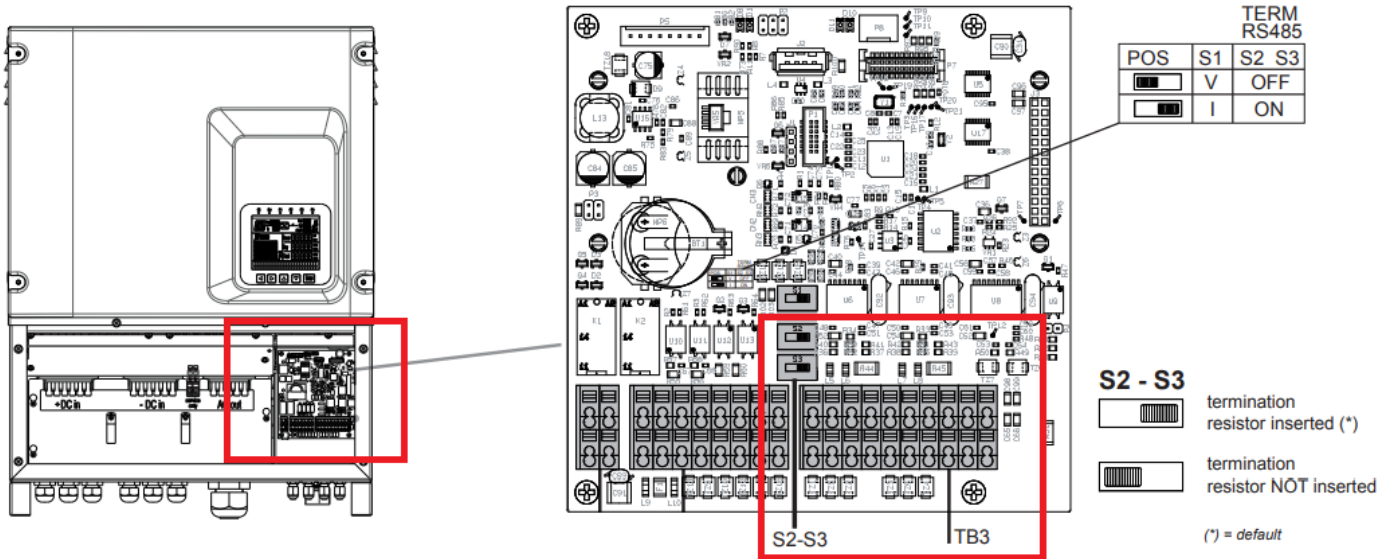

Figure G1 – Rishabh (Radius) String Inverter Connections
1. Locate the TB3 Terminal on inverter as shown in Figure G1.